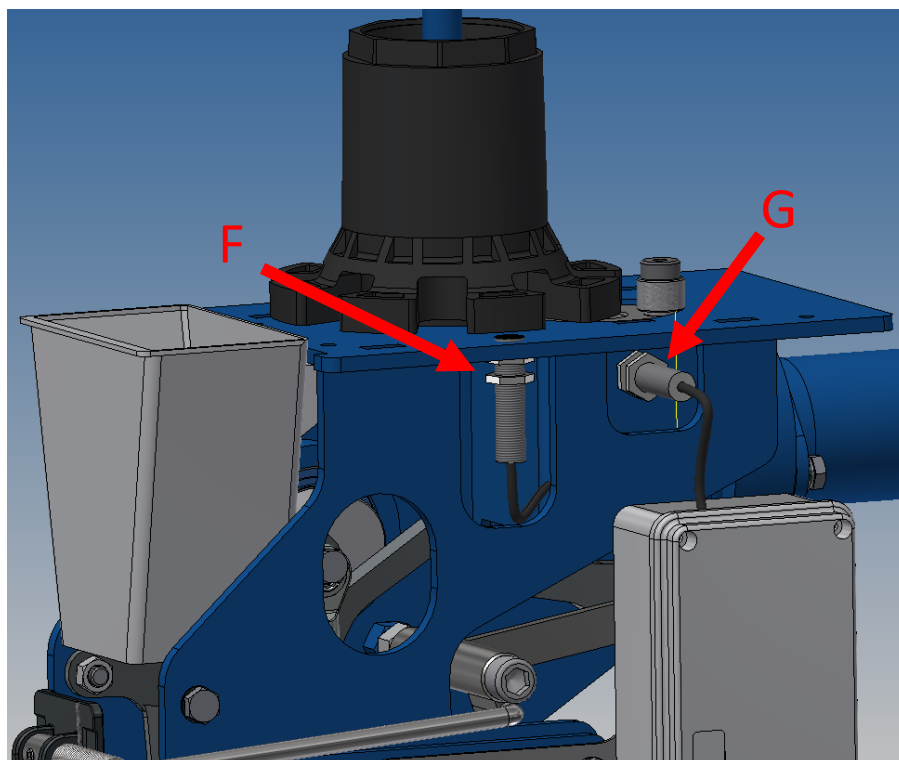

Figure 3: two proximity sensors
- point F, *figure 3*: **proxy alignment**.
- point G, *figure 3*: **proxy stop**.
- place one of the two intermitter teeth with screw on the proxy alignment sensor (point F, *figure 3*) (the other tooth with screw will be on the opposite side);